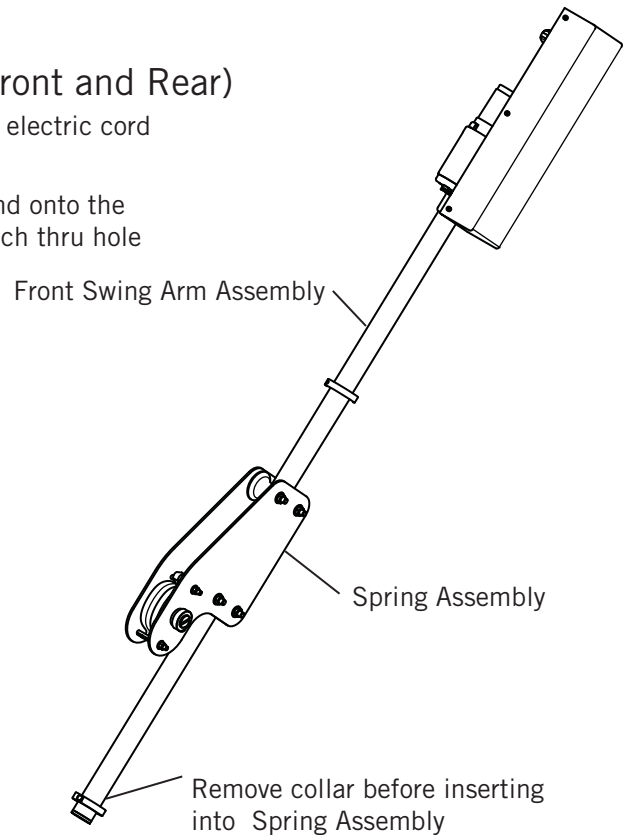

Figure 43
- 2) See Figure 43. Slide lock collar over the power cable and onto the front swing-arm and tighten 5/16-18 x 1" bolt w/ nylon patch thru hole in tube and tighten second bolt against tube.